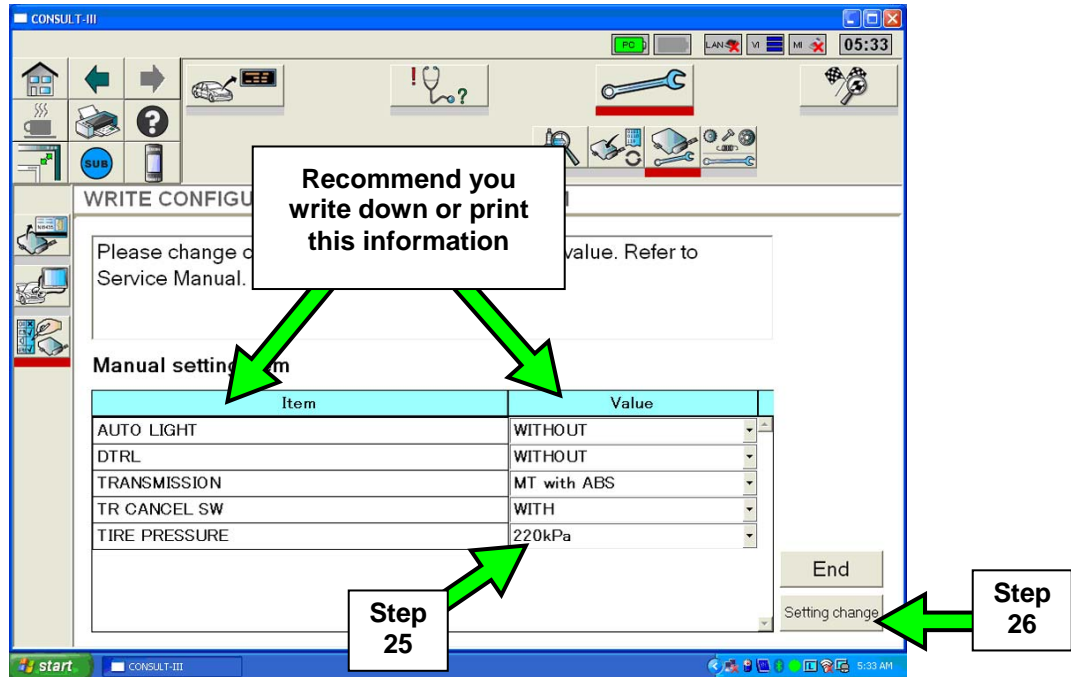

Figure 12
**NOTE:** It is recommended that you write down or print the manual setting items and values (see Figure 12). Although it is not expected, you will need them if the BCM is replaced.
25. Make sure the Tire Pressure Value matches the label on the drivers door jam (see Figure 12).